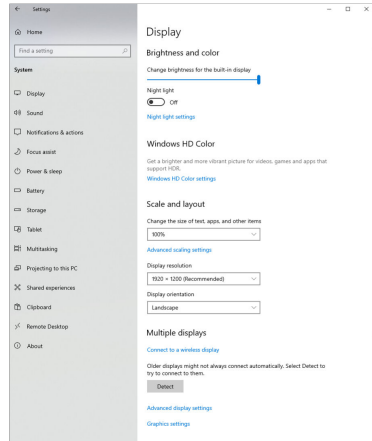

Figure 6. Scale Setting
4. Restart the software to apply any changes. Note that Figure 6 is based on Windows 10.